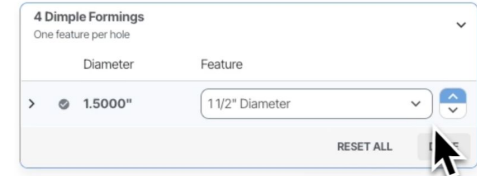

Figure 1.8
3. Choose your desired dimple size (e.g., 0.5", 1.0", 1.5") (see Figure 1.8).